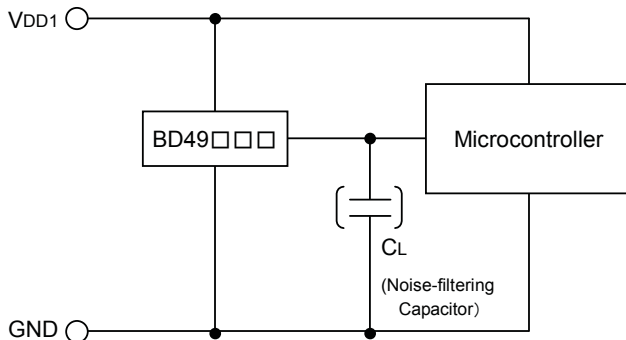

Fig.16 CMOS Output Type
CASE2: the power supply of the microcontroller (VDD1) is same as the power supply of the reset detection (VDD1). Use CMOS output type (BD49□□G/FVE) or open drain output type (BD48□□G/FVE) attached a load resistance (RL) between the output and VDD1. (As shown Figure 16)